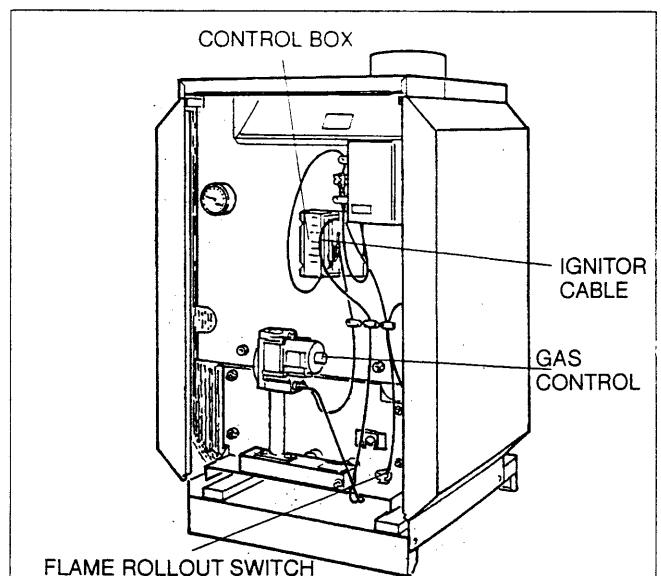
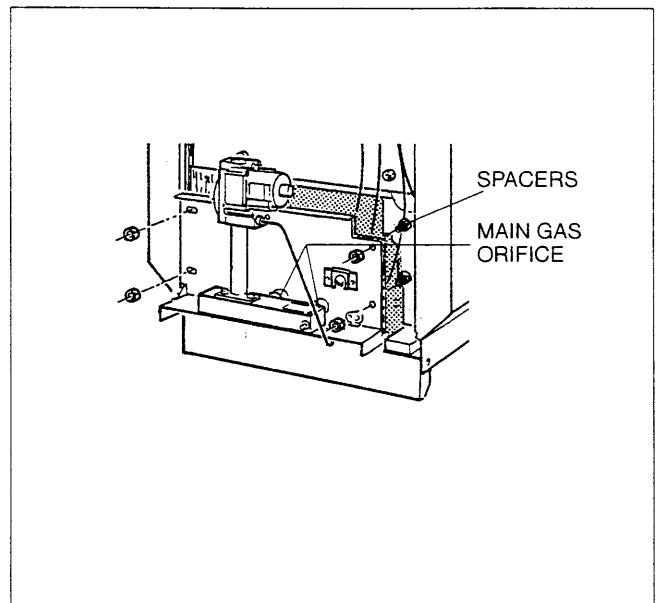

Fig.3
Fig.5
4. Disconnect the ignitor cable from the S 8600 Honeywell Control box, fig. 3 and remove it from the strain relief.
13. Label the flame roll-out switch wires and disconnect the wires from the flame roll-out switch, fig. 3.
15. Remove the 4 nuts and washers that secure the burner assembly to the boiler and remove the burner assembly from the boiler, fig. 3 and fig. 5.
16. Remove main gas orifices and washers from burner assembly fig. 5.
23. Install the burner assembly in the boiler in reverse order of removal. Ensure the spacers shown in fig. 5 are in place before installing the burner assembly in the boiler. Ensure the nuts are tightened firmly.
28. Reconnect the ignitor cable to the S 8600 Honeywell Control box, fig. 3 and fix it with the strain relief.